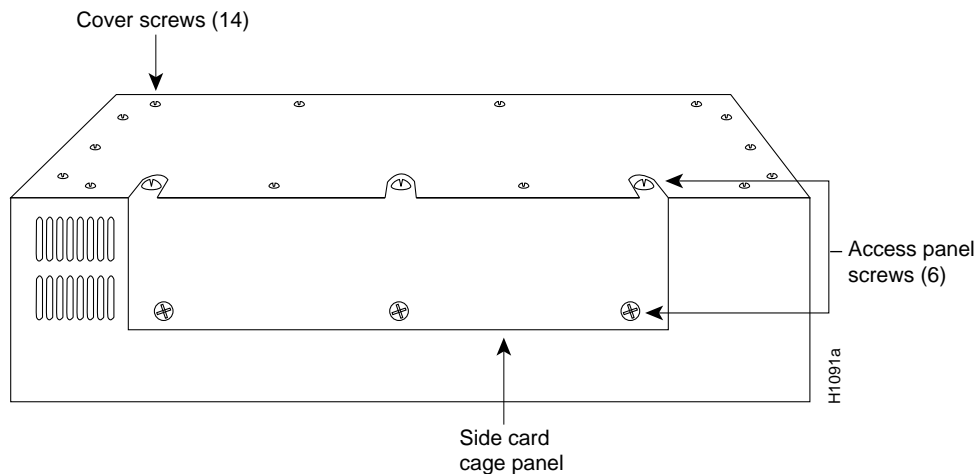

Figure 5 Screw Locations on the M Chassis Exterior
- Step 4** Proceed with this step *only* if you will install Token Ring appliques—Locate and remove the 14 screws that secure the top cover of the M chassis. (See Figure 5.) Set the cover and screws aside.